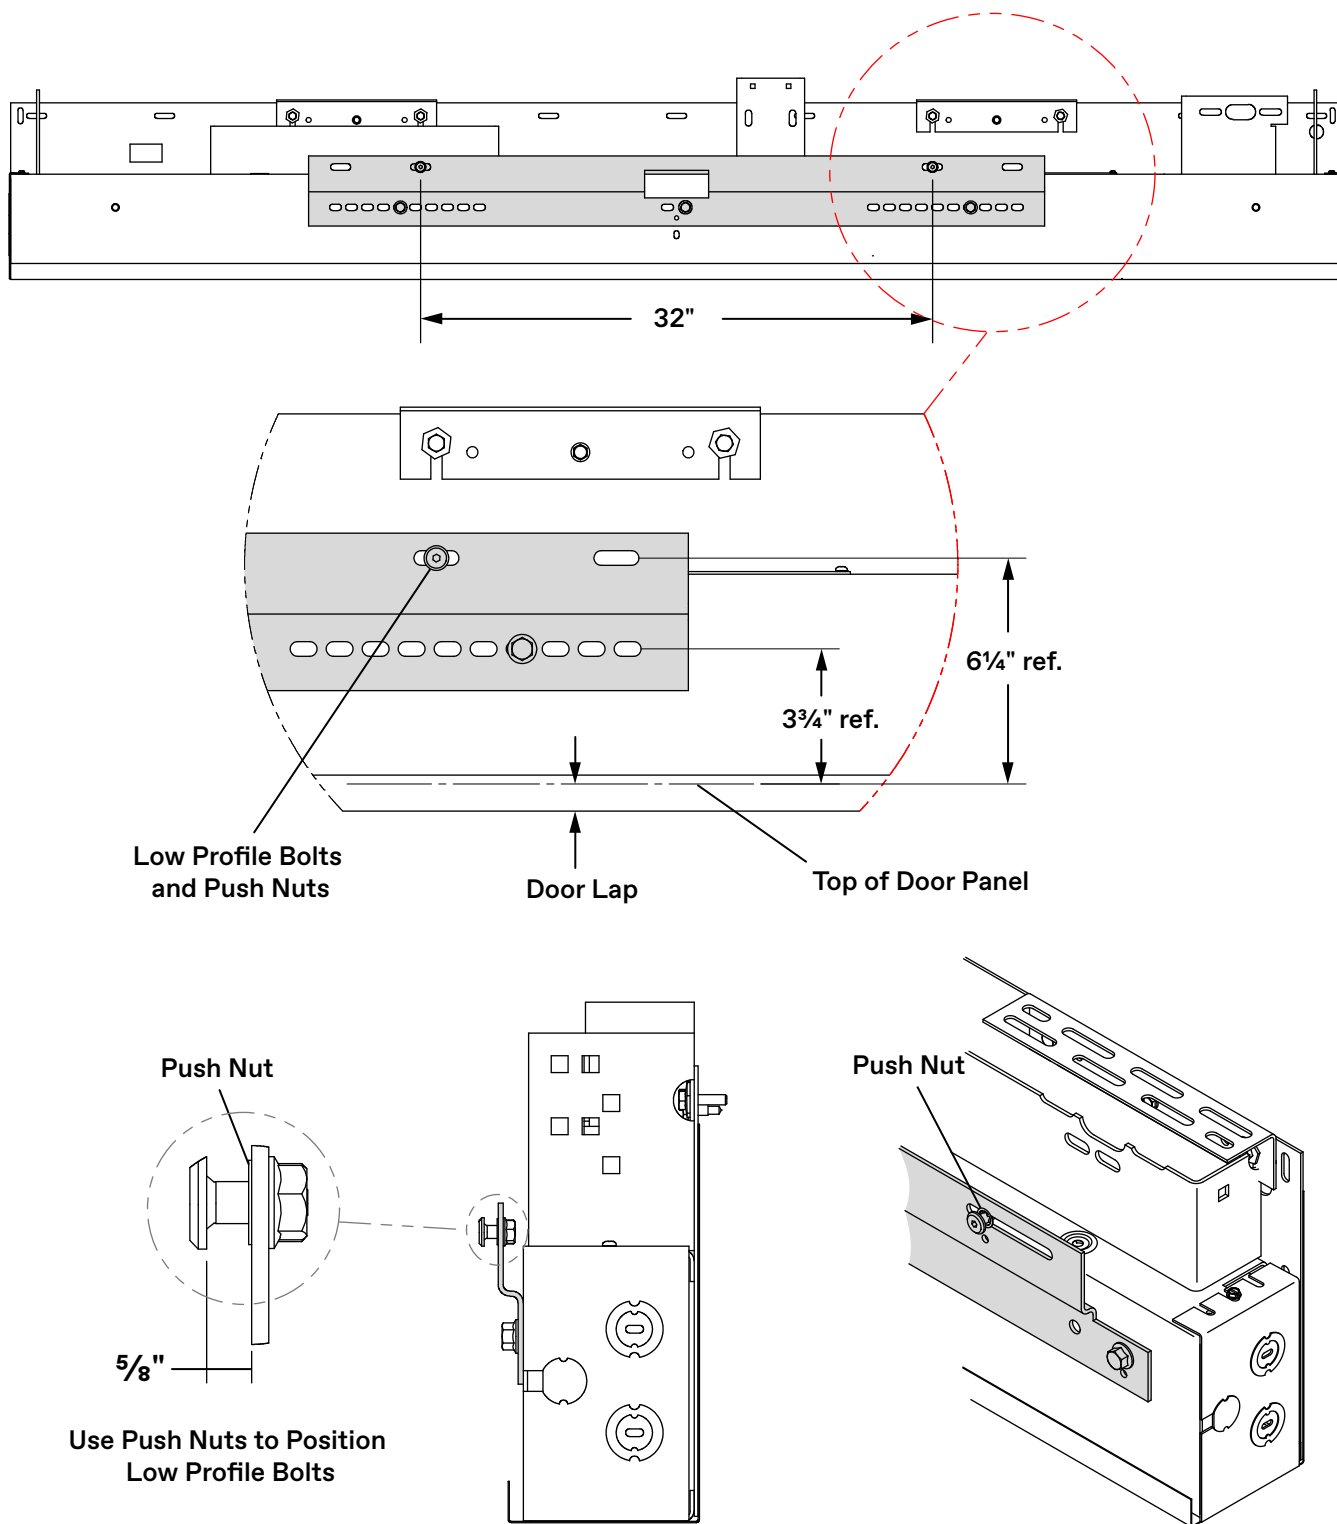

Figure 19 - Adapter Angles Installation Detail
7. Use included hardware to attach the adapter angle to the header, but do not tighten; leave hardware loose to allow adapter alignment with track keyslots. See Figure 19.